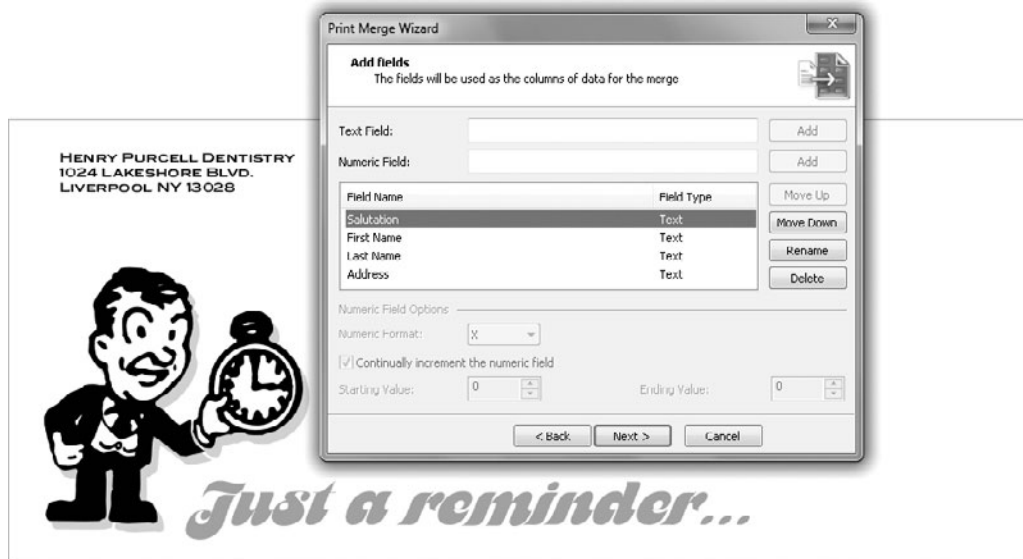

FIGURE 27-14 Create your custom database fields by typing in the Text and/or Numeric Field box and then click Add.
2. If you need to create a custom merge document, choose the Create New Text option and then click Next. Create fields for your custom database by entering unique names in the Text Field and/or Numeric Field, shown in Figure 27-14, and then click the Add button. As you build your field list, you can change the order of the fields by clicking to highlight a field in the Field Name list, and then clicking the Move Up